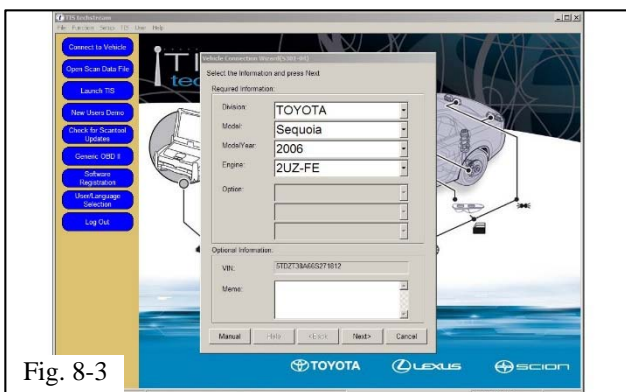

Fig. 8-3
- (e) Confirm that the information displayed on the Vehicle Connection Wizard is correct. If not, make the appropriate selections from the drop down menus, then click “Next” (Fig. 8-3).